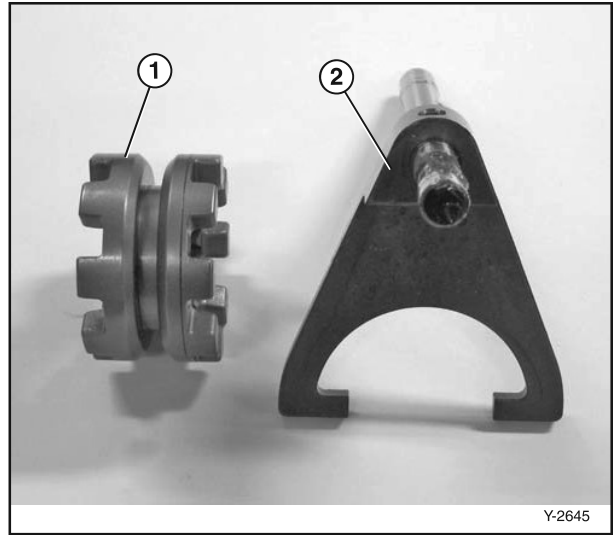

Figure 6-49
19. Inspect the shift collar (Figure 6-49, (1)) and the shift fork (Figure 6-49, (2)) for wear.